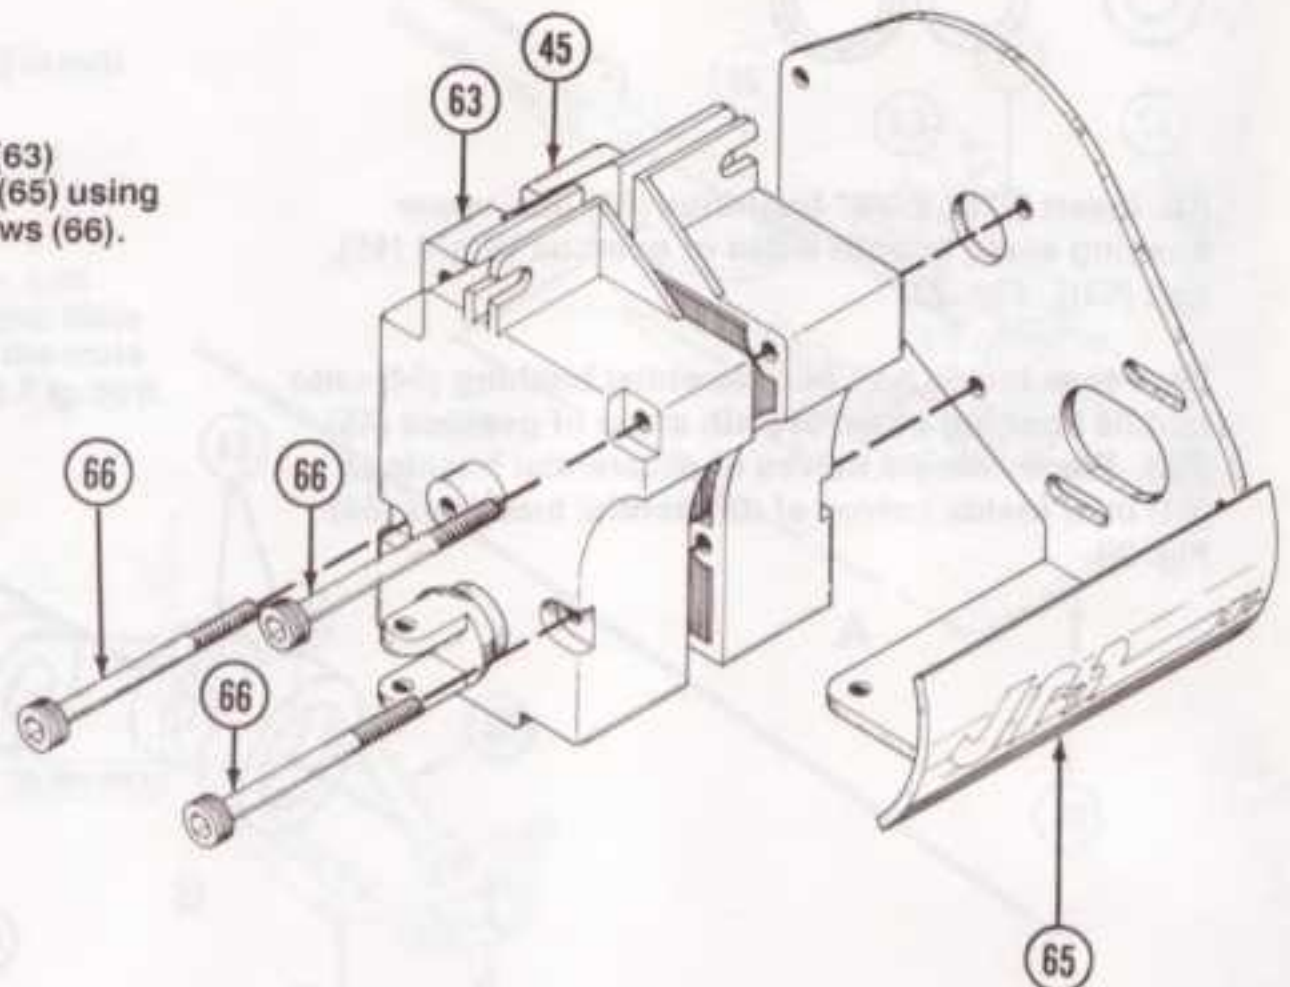

FIG. 25
31. Place the two halves of the gearbox (45) (63) together and secure them to the motor plate (65) using three 4-40 x 1 3/8" socket head shoulder screws (66). Fig. 25.